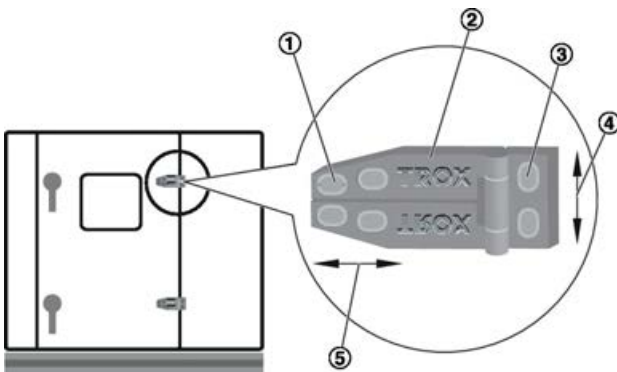

Fig. 42: Adjusting the door
1. ▶ Remove the hinge covers (Fig. 42 /1).
2. ▶ Loosen the screws of all hinge brackets (Fig. 42 /2) of a door.
3. ▶ Adjust the door horizontally (Fig. 42 /5).
4. ▶ Tighten the screws of the hinge brackets (Fig. 42 /2).
5. ▶ Loosen the screws of all hinge blocks (Fig. 42 /3) on a door.
6. ▶ Adjust the door vertically (Fig. 42 /4).
7. ▶ Tighten the screws of the hinge blocks (Fig. 42 /3).